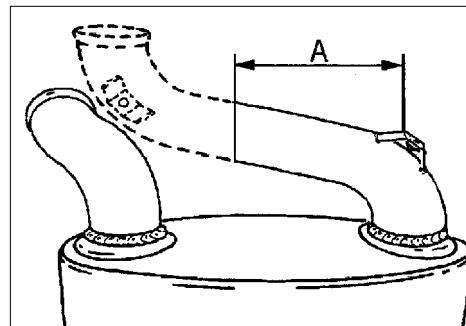

Figure 2
2.1.2 Transfer dimension A = 130mm (figure 2) to the outlet pipe of the muffler. Using the hacksaw, vertically cut off the outlet pipe at the marking.